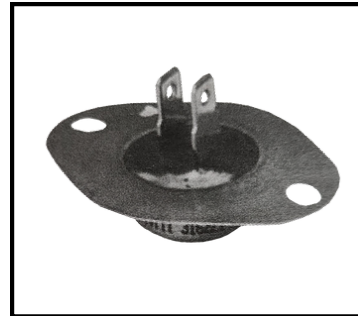

Fig. 2
2. The new limit control switch is sealed against moisture to prevent corrosion of internal electrical contacts and does not require a rubber boot. See Fig. 2.